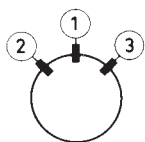

Fig. 4b
4. By moving the deflection coil horizontally, the horizontal red and blue line is superimposed in the top and bottom of the screen and the red and blue vertical line to the left and right. If the position of the deflection coil is correct, place wedges (2) and (3) as shown in Fig. 4b or 5b. Firmly press the adhesive part of the wedge against the tube glass.